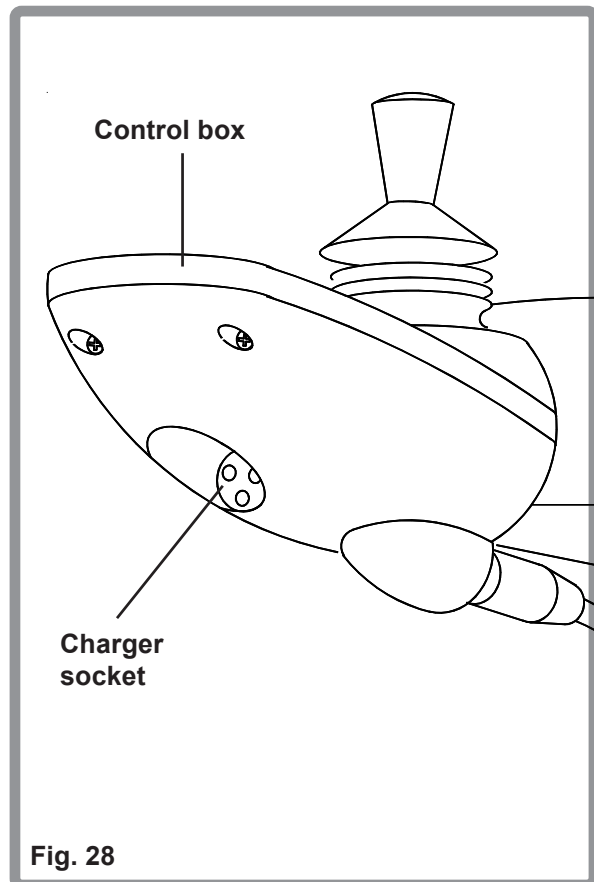

Fig. 28
- 1 Plug into the three pin charging point under the front of the control box (Fig. 28).